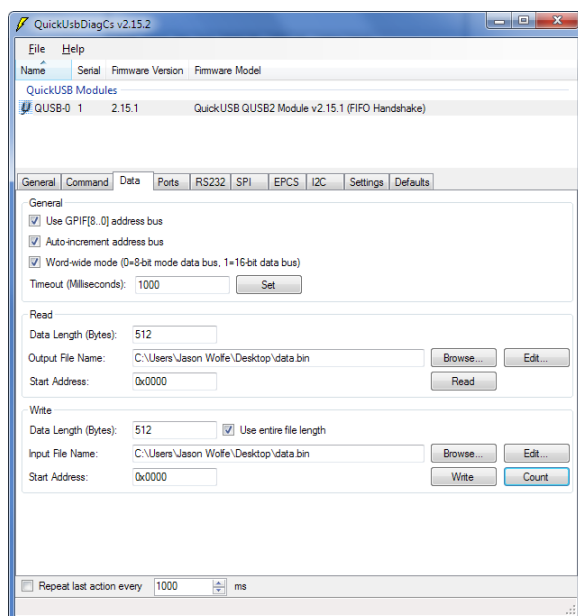

Figure 6 – QuickUSB Diagnostics Data Tab for Loop Back Test
- a. Navigate to the “Data” tab. Check the “Word-wide mode” checkbox if it is not already checked (see Figure 6). This will enable the QuickUSB Module to be in Word-Wide mode and use a 16-bit data bus.